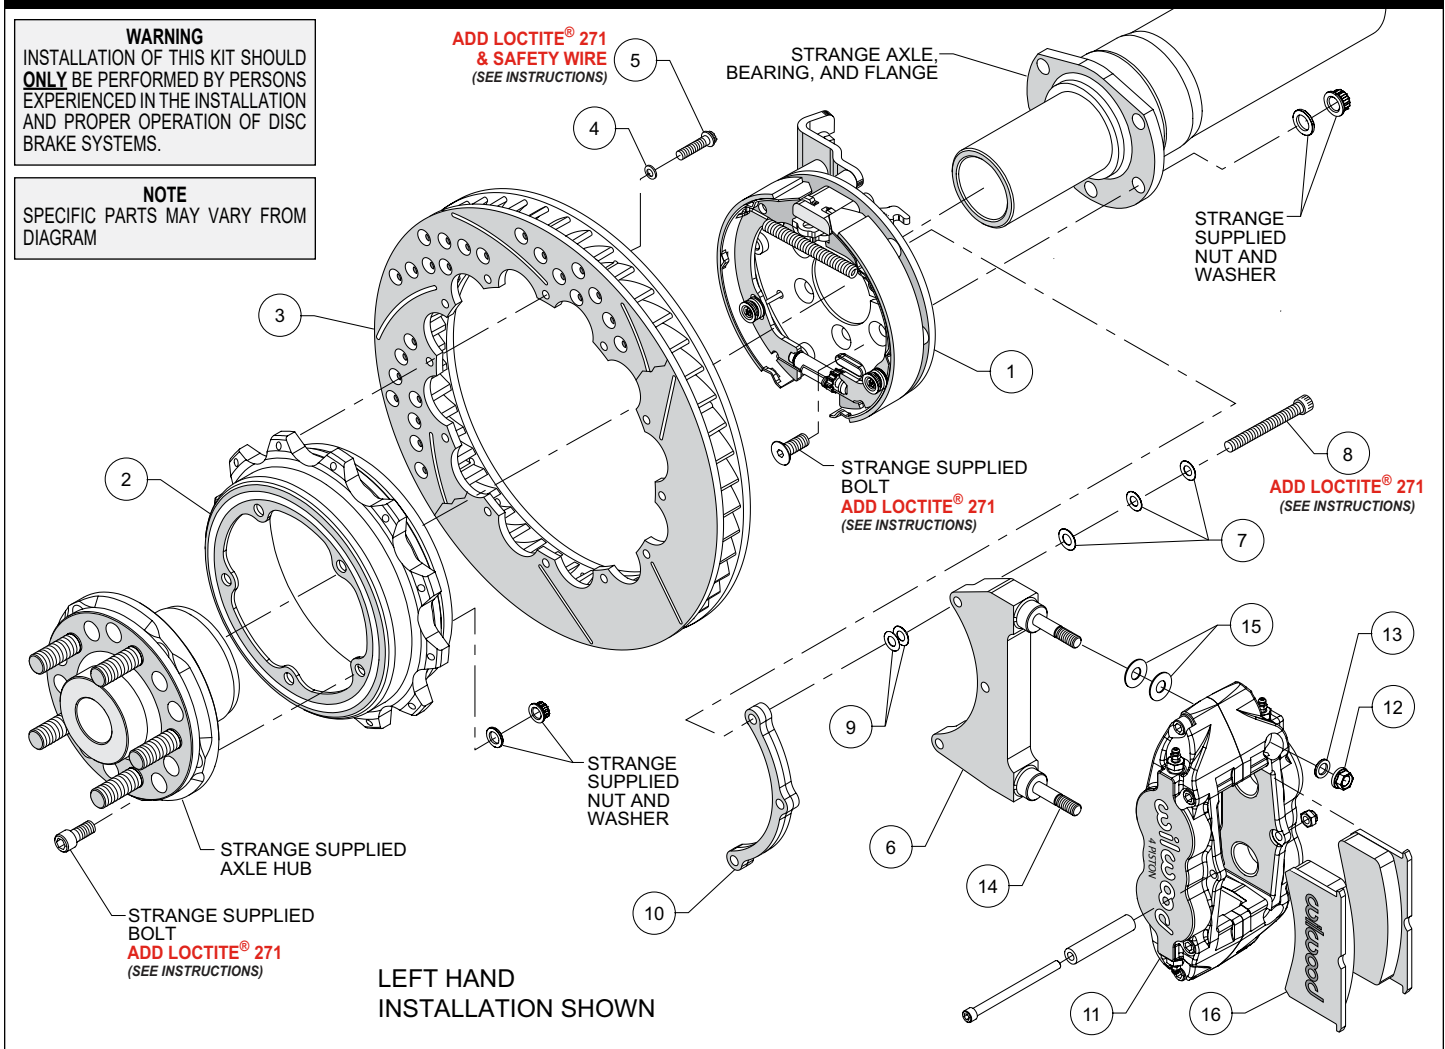

Figure 1. Typical Installation Configuration
Assembly Instructions (numbers in parenthesis refer to the parts list and Figure 1 on the preceding pages): **CAUTION:** All mounting bolts must fully engage threaded holes.
•Orient the bracket assembly (1) as shown in Figure 1 and slide it onto the axle housing flange. Ensure that the bracket assembly backing plate fits flush against the axle housing flange. Secure bracket assembly to the axle flange using bolts, washers, and lock nuts (all Strange supplied) as shown in Figure 1. Apply red *Loctite*® 271 to the bolt threads and torque to Strange specifications.
•**NOTE:** Please reference the caution statement at the beginning of the assembly instructions. The caliper mounting bracket assembly (6) should be installed first with clean, dry threads on the mounting bolts (8). Install the bracket using bolt (8), three flat washers (7), shim washer (9) and spacer (10), as shown in Figure 1. **NOTE:** End of bolt should not exceed inside face of insert. The bracket must tighten squarely against the back side of the bracket kit assembly (1). Inspect for interference from the axle flange. Use two thin shims (9) between the bracket (6) and spacer (10) during initial trial fitting. Later, after the caliper alignment has been checked, the mount bolts will be secured using red *Loctite*® 271.
•Orient the rotor (3) and the hat (2) as shown in Figure 1. Attach rotor to hat using bolts (5) and washers (4). Apply red *Loctite*® 271 to the bolt threads and torque to 155 in-lb using a criss-cross pattern.
•Orient the hat (2) and the axle hub (Strange supplied) as shown in Figure 1. Attach the hat to the axle hub using bolts, washers, and lock nuts (all Strange supplied) as shown in Figure 1. Apply red *Loctite*® 271 to the bolt threads and torque to Strange specifications.
•Slide the rotor/hat/hub assembly onto the axle as shown in Figure 1 and secure per Strange Engineering specifications.
•Initially place two .035" thick shims (15) on each stud between the caliper and the bracket, as shown in Figure 1 and Photo 1. Mount the caliper (11) onto the bracket (6) using lock nuts (12) and washers (13), Figure 1. Temporarily tighten the lock nuts and view the rotor through the top opening of the caliper. The rotor should be centered in the caliper, Photo 2. If not, adjust by adding or subtracting shims (9) between the bracket (6) and the spacer (10). Always use the same amount of shims on each of the two mounting bolts. Once the caliper alignment is correct, remove the bracket mounting bolts one at a time, apply red *Loctite*® 271 to the threads, and torque to 180 in-lb.